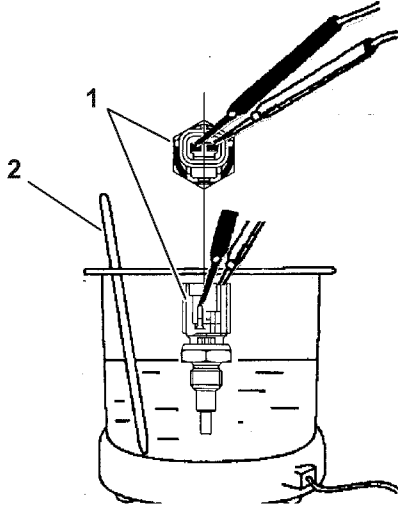

Figure 8-9
1. Inspect the water temperature sensor to make sure that it is properly operating. As shown in the following figure, connect an electric resistor to the coupler of the water temperature sensor (Figure 8-9, (1)).
2. Dip the water temperature sensor and an accurate thermometer (Figure 8-9, (2)) into the cooling water.